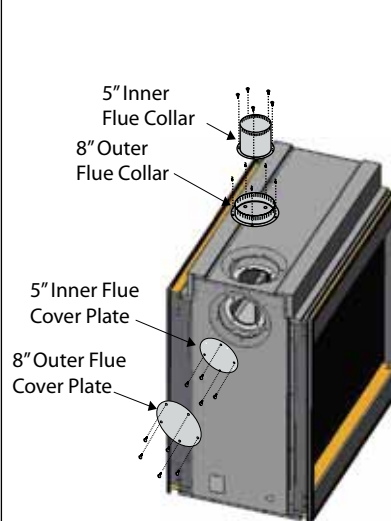

Figure 8. Installing the top vent/side flue covers.
1. Install the 5" inner flue collar on the top flue outlet and secure the cap in place with four (4) screws, as shown in *Figure 8*.
2. Install the 8" outer flue collar on the top flue outlet, and secure it with five (5) screws, as shown in *Figure 8*.
3. Install the flue gasket material and flue cover plate on the side vent outlet. Fasten the cover plate(s) with four (4) and five (5) screws, as illustrated.